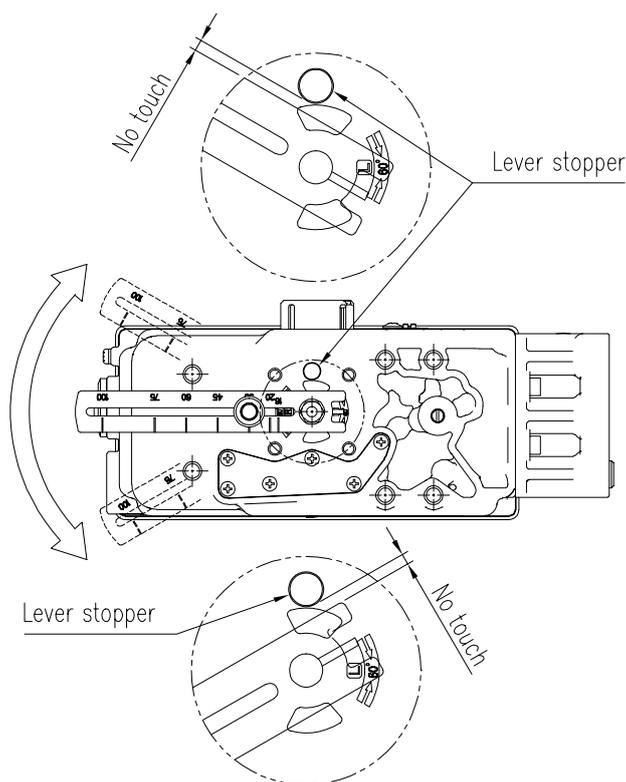

Fig. 3-16: YT-3300L / 3350L Feedback lever should not touch lever stopper on 0 % ~ 100 % valve stroke.
- 8) After installing the positioner, operate the valve from 0 % to 100 % stroke by using direct air to the actuator. On both 0 % and 100 %, the feedback lever should not touch the lever stopper, which is located on the backside of the positioner. If the feedback lever touches the stopper, the adapter holder should be moved or the adapter of feedback lever should be moved further away from the main shaft of the positioner. Refer to Fig 3-16.